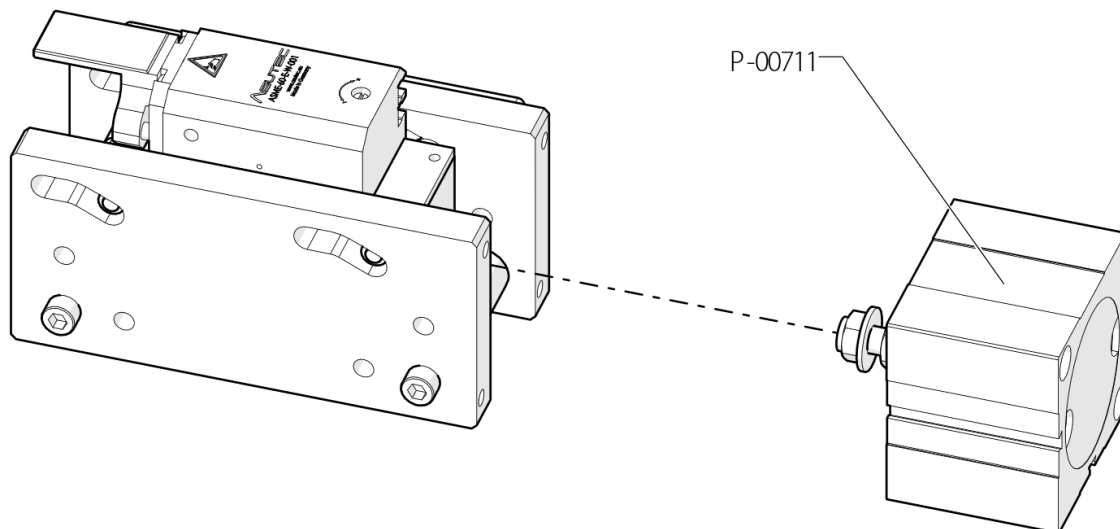

Figure 39: Remove P-00711
Step 5: Remove P-00711 as shown in Figure 39.